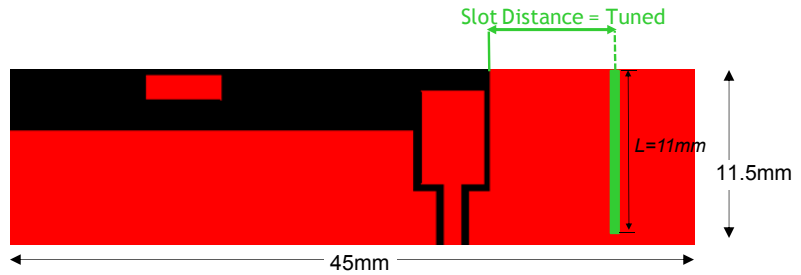

Figure 11
- a band center frequency can be tuned by inserting a slot at the antenna ground plane (Figure 11 at right)